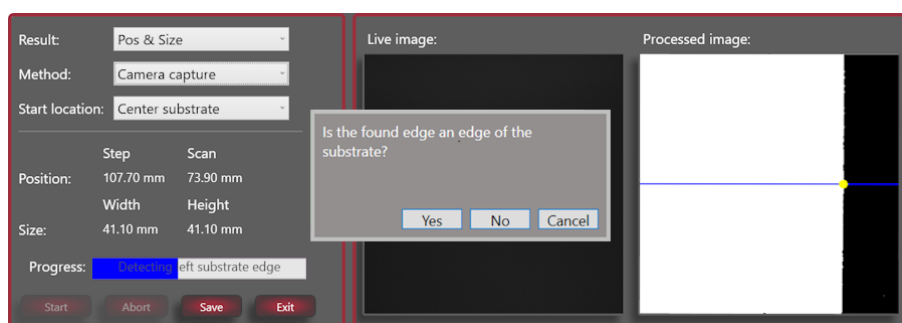

Figure 3-24 Detecting the first edge
- 9.2. When the first edge right of the starting position is found, check the **Processed image** window to see if this is a real edge, see **Figure 3-24 below**.